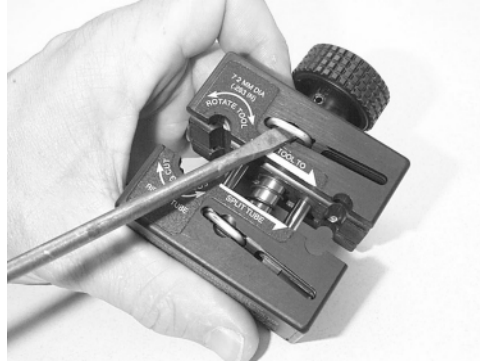

Figure 6 – Remove the locking clip.
8.2 Remove the locking clip by placing a small screw driver behind the center of the clip and pry it out (Figure 6).